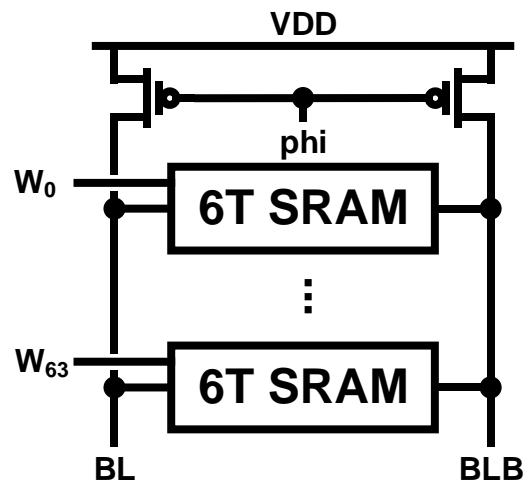

Fig. 3 6T SRAM cell array
- (2) Determine the butterfly curve and the quiescent Static Noise Margin ( $SVM_{hold}$ ) of your SRAM cell in TT corners. (20%) Determine the butterfly curve and the read Static Noise Margin ( $SVM_{read}$ ) of your SRAM cell TT corners. (20%)
- (3) Design a 6T SRAM cell array under TT corner as shown in Fig. 3. Set the initial value of  $A=0$  and  $A\_b=1$  in  $SRAM_0$ . Set the initial value of  $A=1$  and  $A\_b=0$  in  $SRAM_1 \sim SRAM_{64}$ . Perform a proper read operation ( $W_0 \sim W_{63}=0$ ,  $\phi=0 \rightarrow \phi=1 \rightarrow W_0=1$ ) for  $SRAM_0$ . Generate the read operation curve and discuss the result to that of (1). What makes the difference? (20%)